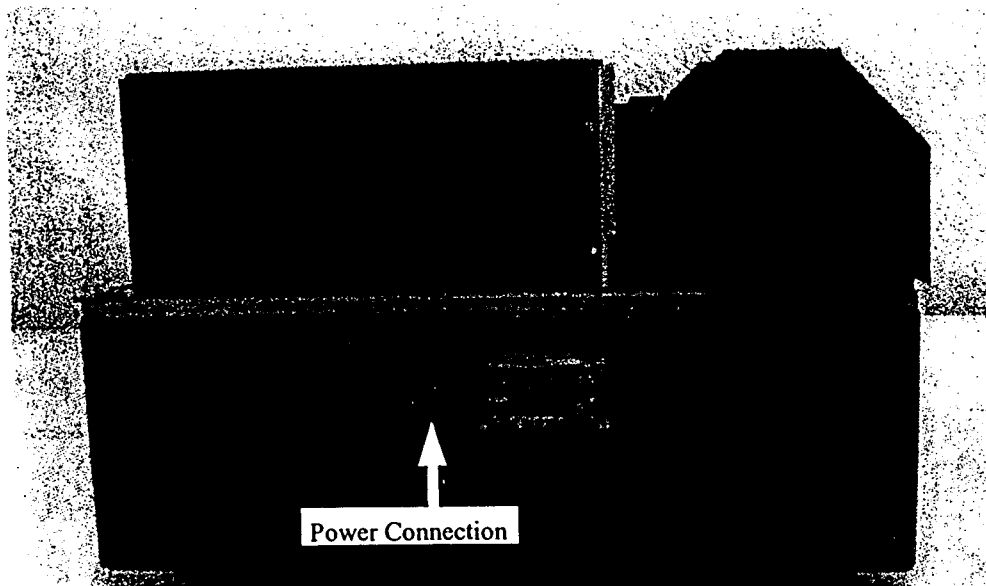

Fig. 2. Power Connection (left side of machine)
2. Plug the power cord into the power cord socket located at the left side of the machine. (See Fig. 2.)